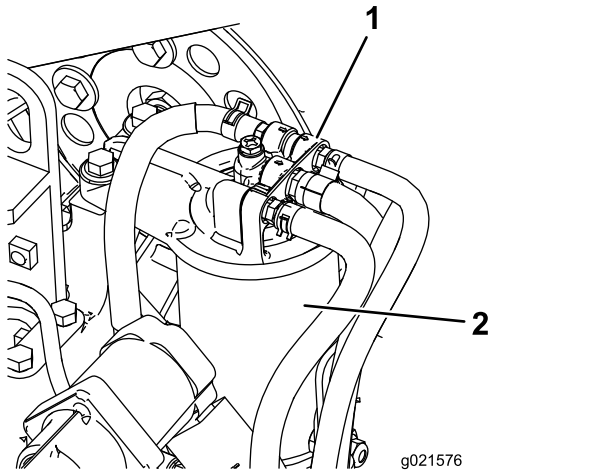

Figure 53
1. Clean the area around the fuel-filter head (Figure 53).
2. Remove the filter and clean the filter head mounting surface (Figure 53).